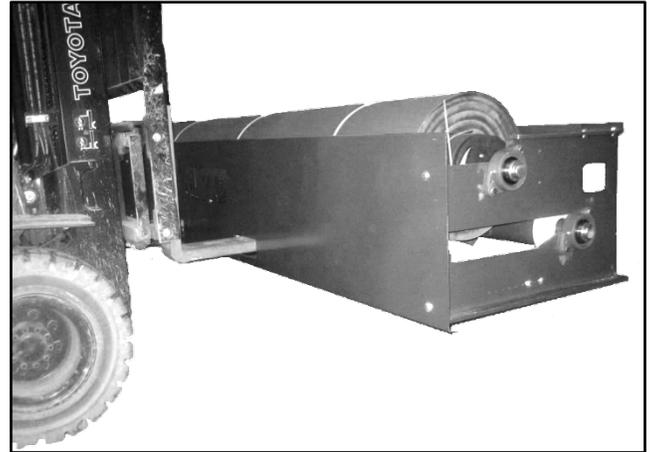
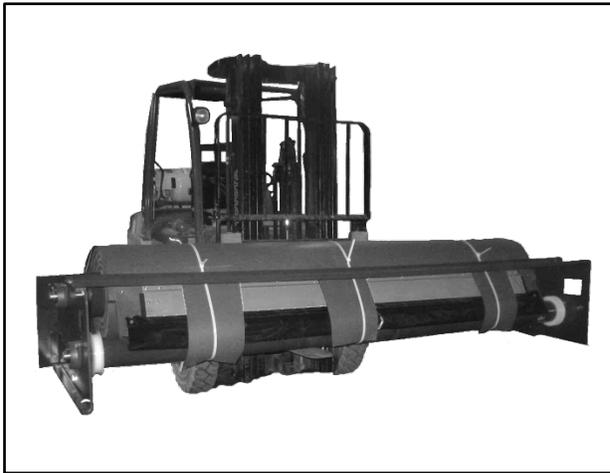

Figure 16
Figure 17
2. Remove the head assembly from the crate. Using a fork lift, guide the forks into the slots in the front of the head assembly making sure that the forks are below the panel and idler drum. The lifting slots are provided to aid in lifting the head and preventing damage to the foam panel, drum, and head assembly. (See Figure 16 and Figure 17)
3. Secure the head assembly with C-clamps and a strap around the front spreader, door panel drum, and the idler drum to the forks of the forklift or mechanical lift before lifting it into position. C-clamps should be used on both sides of the front spreader to secure the head in place. (See Figure 17 - 18)